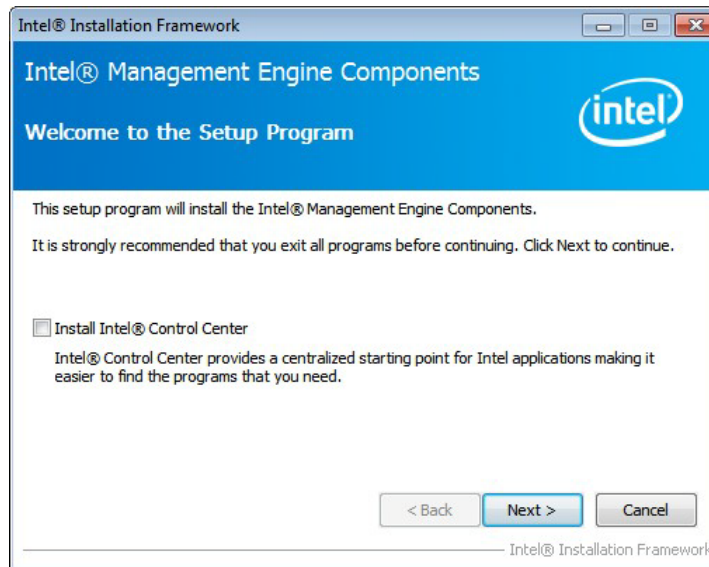

Figure 6-32: Intel® ME Driver Welcome Screen
Step 4: When the setup files are completely extracted the **Welcome Screen** in **Figure 6-32** appears.